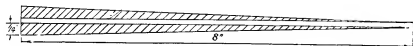
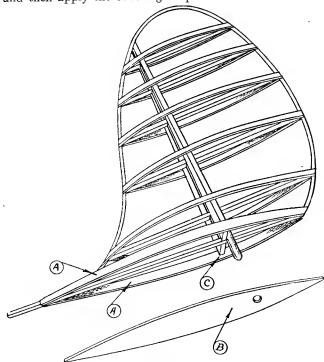

Fig. 155.
Fig. 156.
In the first place, the main spar must be built up into a tapering section. This is done in the manner indicated in Fig. 155; that is, by cementing long, wedge-shaped pieces of 3/32 in. balsa (shown shaded) to the top and bottom of the existing spar. Next, the tail section must be formed by cementing strips of 1/32 in. balsa, 1/8 in. wide, across the tail above each cross strut. These strips are cemented to the leading edge, over the built-up main spar, to the trailing edge. This will produce a cambered surface over which the covering tissue may later be stretched. The camber is equal on both top and bottom surfaces of the tail planes. I trust that the drawing in Fig. 156 will make these processes clear. The portion marked (B) represents a shaped piece of 1/32 in. balsa sheet, which is cut to fit between the strips (A). It may be easier to cement first this strip to the main structure, and then apply the covering strips